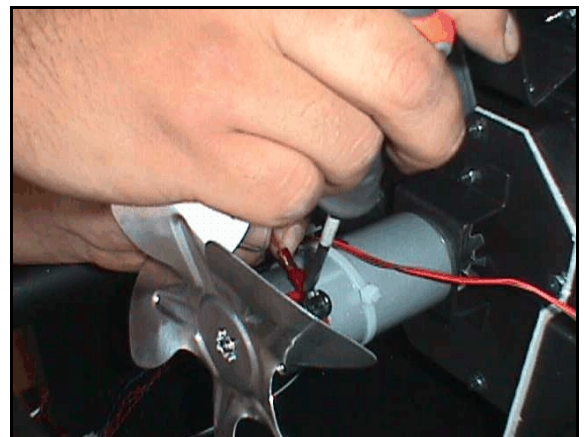

Figure 4
**Removing the wire harness connections :** Using care not to bend the fan blade, carefully use a flat blade screw driver to help pry off the red and black motor wire terminals (**Figure 4**). Note the brush holders have a corresponding red and black base to confirm wire connections.